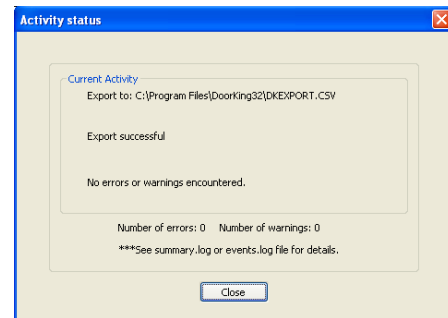

Figure 66
4. Click OK or cancel. Once the export file has been created, the activity status window will display and advise if your export was successful (Fig 66).